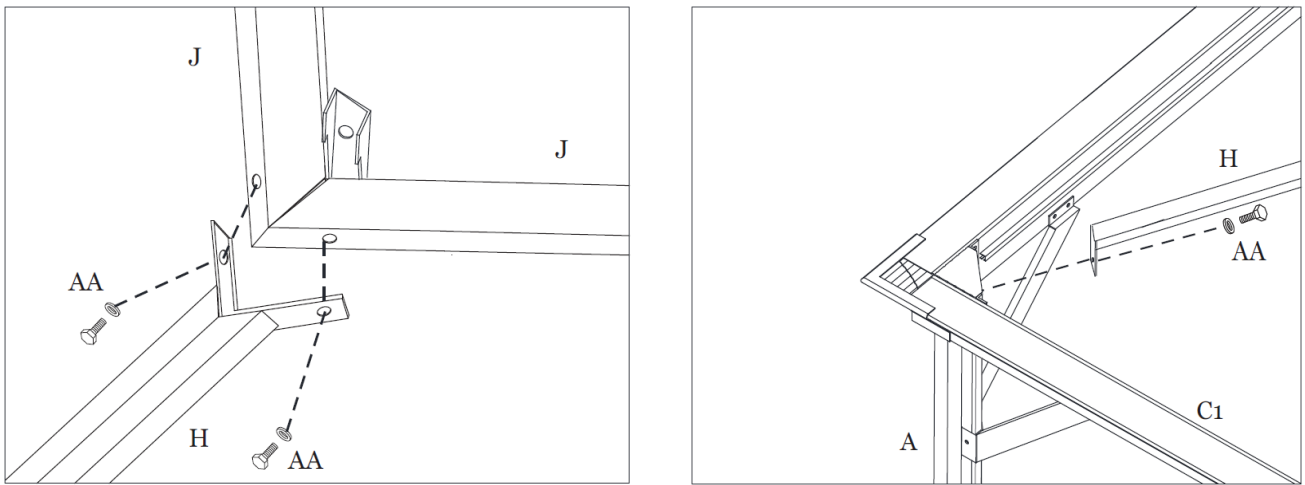

Figure 6-1
Step 6A: Attach Main Roof Corner Support (H) to Main Roof Center Frame (J) and Corner Post (A) using Bolts (AA). See Figure 6-1.